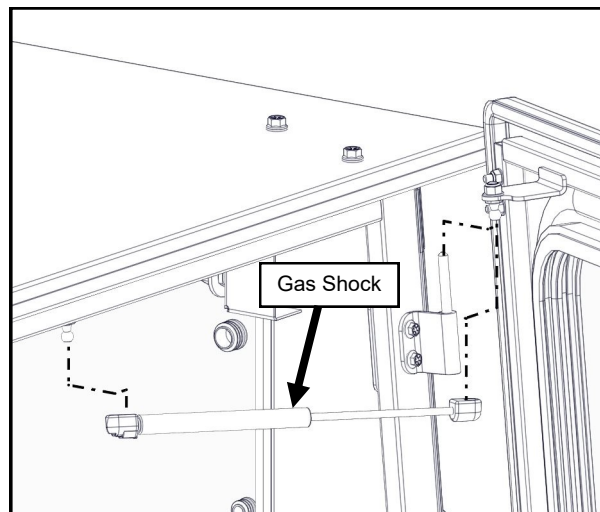

Fig. 21.1 (Door Installation)
**21.1** If the doors were removed for ease of handling, grease the hinge pins and re-install the doors into their respective hinge sleeves located on the side frames. See Fig. 21.1